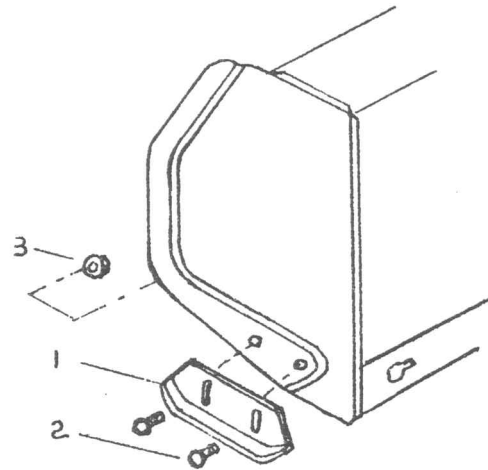

FIGURE 1
- a) Install the skid shoes on the snowblower (fig. 1, item 1) with 5/16 x 3/4" carriage bolts (item 2), heads on the outside. Secure with flange nuts (item 3). Do not tighten yet.